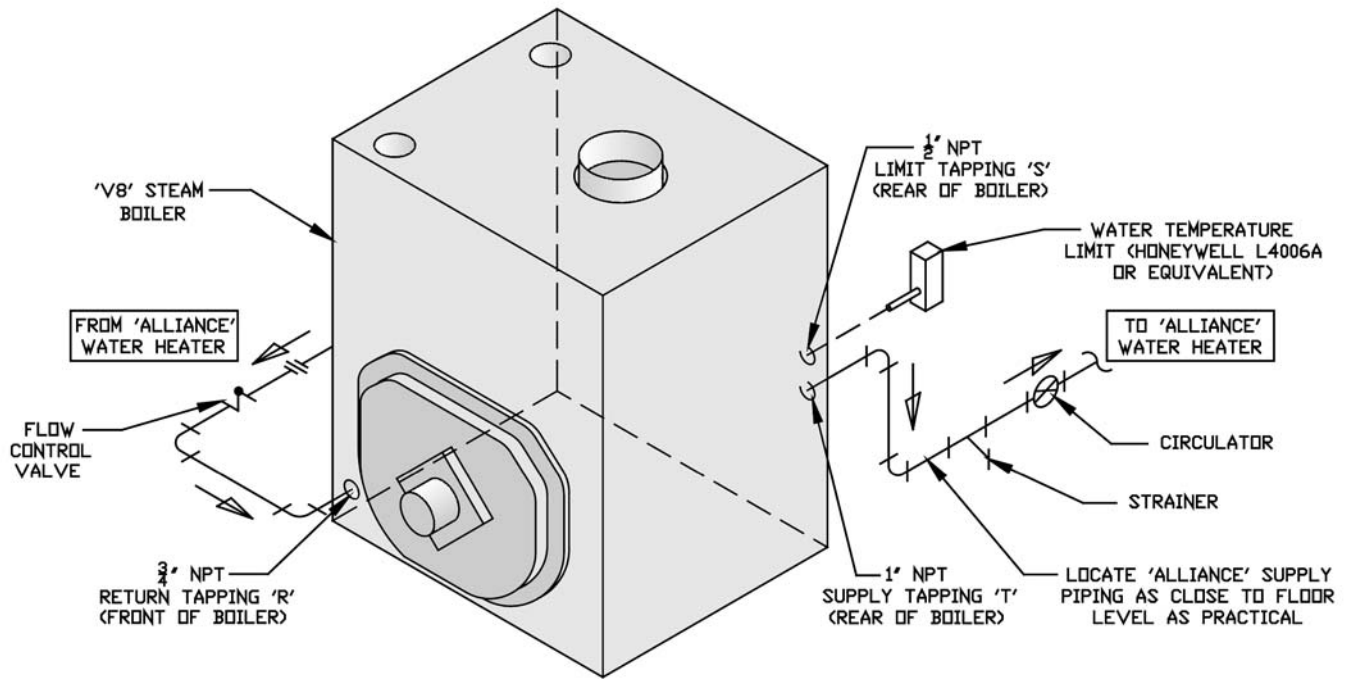

Figure 15B: Alliance™ Water Heater Piping with V8 Boiler
B. CONNECT ALLIANCE™ INDIRECT WATER HEATER PIPING as shown in Figure 15B.